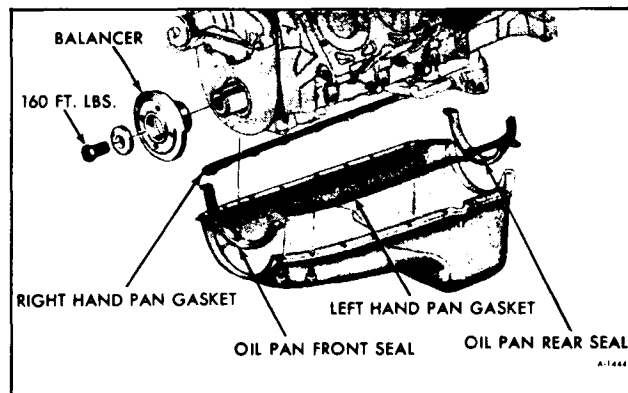

Figure 32-Oil Pan Assembly
1. Apply sealer 1050026 or equivalent to both sides of gaskets. Position all gaskets on engine block. See Figure 32.